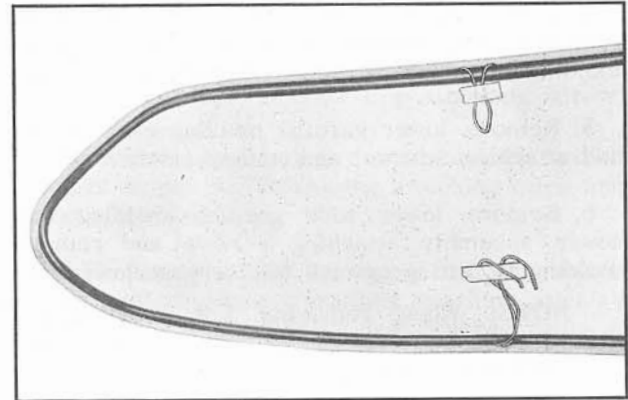

Fig. 17-7 Windshield Glass Channel Installation
2. Assemble rubber channel to glass; then insert strong cord into pinchweld cavity along length of channel. Tie ends of cord and tape to inner side of glass at top and bottom center of windshield as shown in Fig. 17-7.